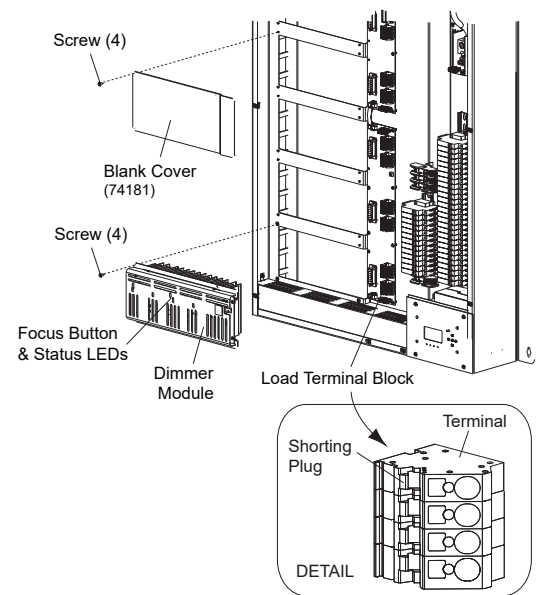

FIGURE 5. INSTALLING MODULES AND BLANK COVERS
- Step 4. Firmly grasp the exposed red tab of the shorting plug. **FIGURE 5. Installing modules and blank covers on page 11.**
- Step 5. If present, remove blank cover (53805-041) from location where module is to be installed. **FIGURE 5. Installing modules and blank covers on page 11.**